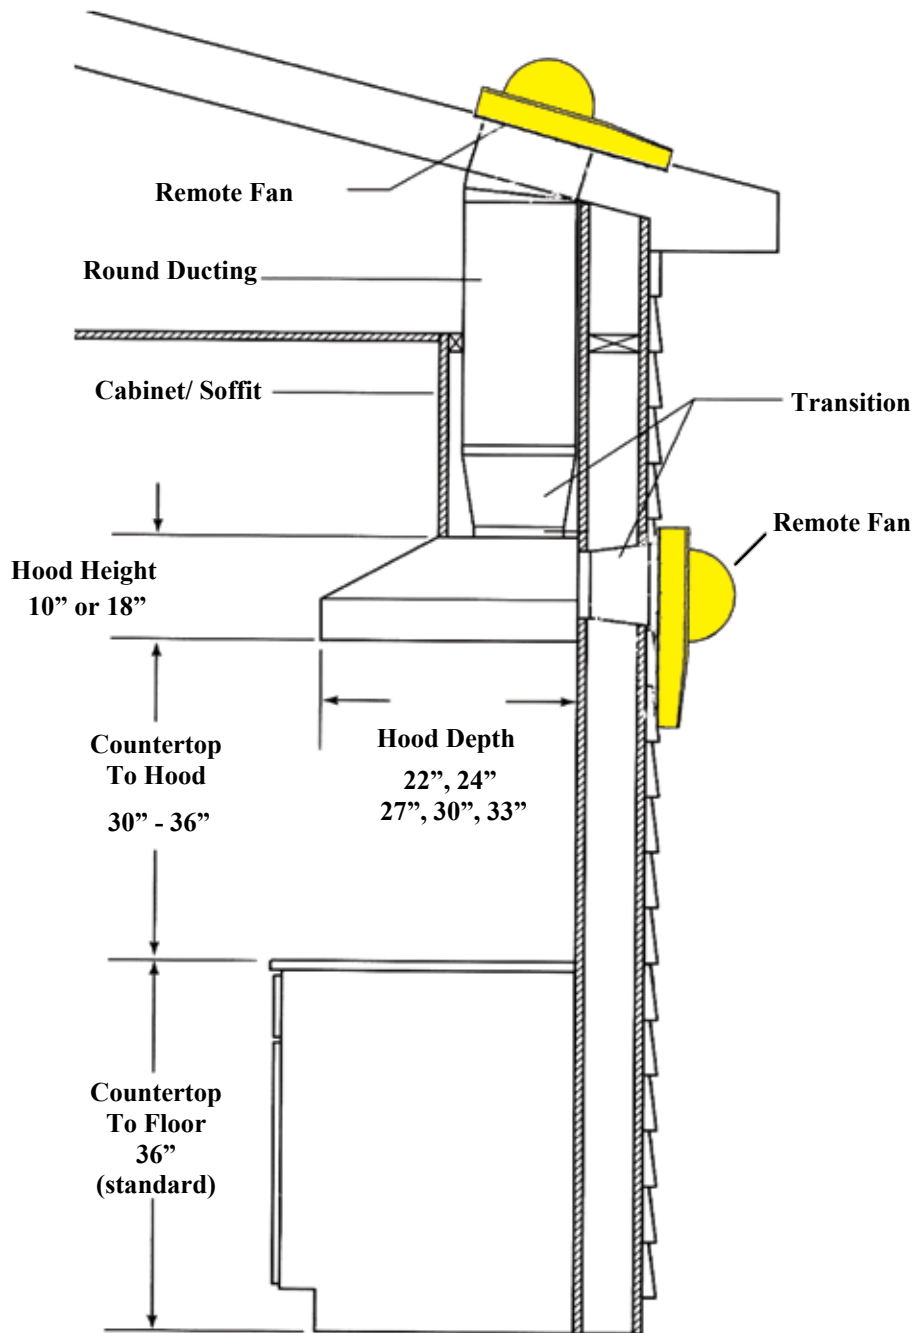

Figure 12.
2. Remove center filter bank by removing the 2 screws from each side. **DO NOT DISCARD THESE PARTS**, as they will be reinstalled after hood installation is completed. (See Figure 12)
4. Detach the transition from the hood by removing the (4) shipping screws on the top of the hood assembly. **DO NOT DISCARD THESE SCREWS**. These shipping screws will be needed for the reinstallation of the transition to hood.
6. Remove hood baffle filters and loosen hood filter-bank prior to installation of hood. See page 10 for direction. (See Figure 12)